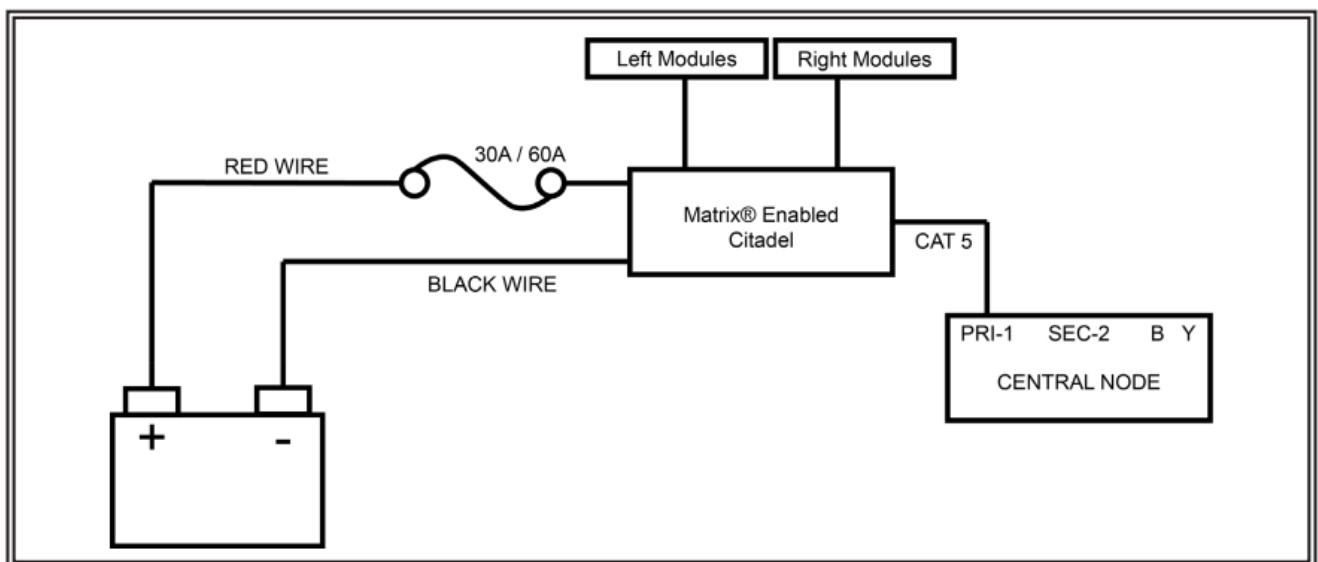

Figure 2
See Figure 2 for details.
- All Matrix® enabled Citadels must also connect back to a central node, such as the Serial Interface Box or Z3 Serial Siren, to establish serial communication with the larger network. Please note, for CAT5 connections the PRI-1 port must always be utilized first, before additional devices can be connected to the SEC-2 port. See Figure 2 for details.